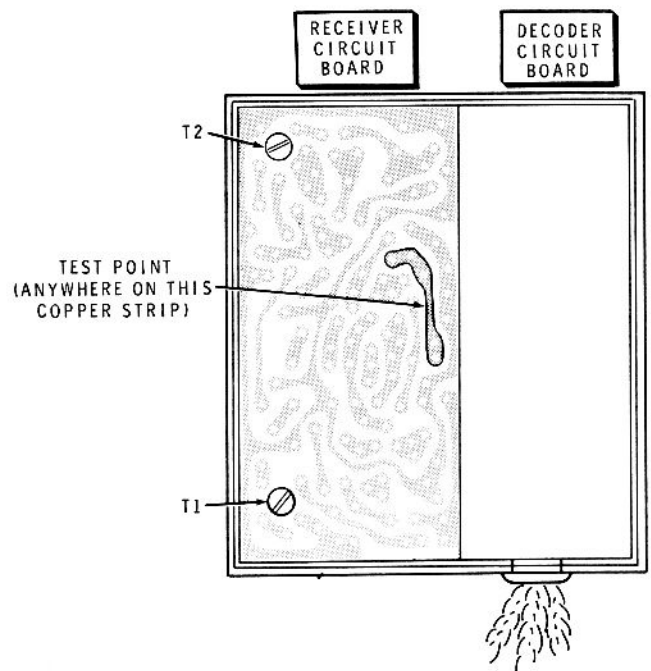

Figure 3-5
- () Carefully solder one end of a 15 k Ω (brown-green-orange) resistor to the test point on the foil side of the receiver circuit board (S-1). See Figure 3-5 for this test point.